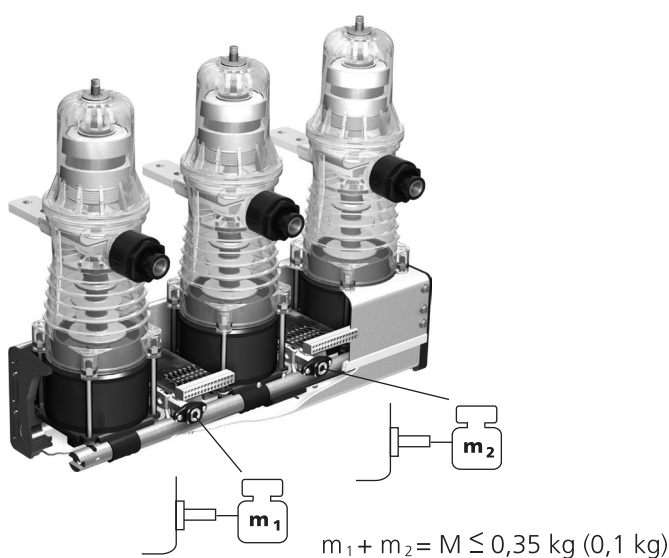

Figure 32
- If the interlocking mechanism is attached to one of the interlocking pins, the weight of the directly attached movable part to the interlocking pins shall not exceed 0,35 kg. Exception is ISM/TEL 12-20/1000-055F series, where the attached movable part shall not exceed 0,1 kg. If both interlocking pins are used, the sum of the attached weights shall not exceed 0,35 kg respectively 0,1 kg (Figure 32).